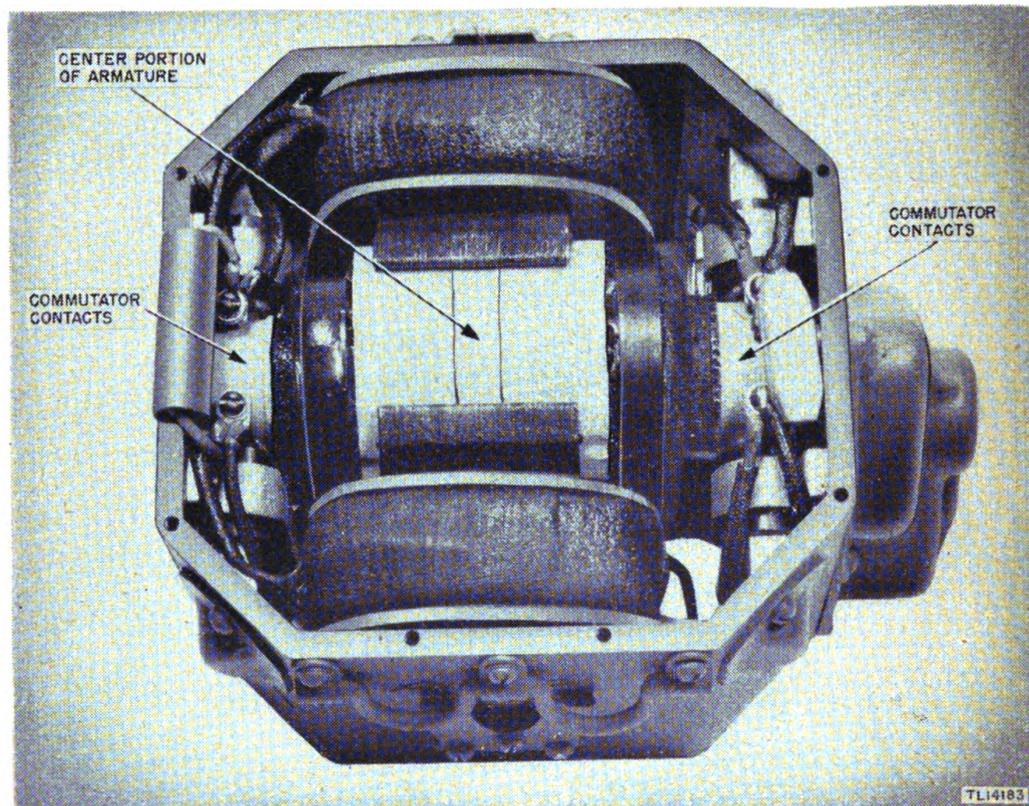

FIGURE 39.—Generator GN-44-()—view with bottom cover removed showing method of masking parts.
b. Disassembly.—(1) Remove the six screws holding the top cover of generator to case; remove the top cover†.
(2) Remove the seven screws holding the bottom cover of the generator to the case; remove the bottom cover†.
(3) Clean all dirt, oil, dust, rust, grease, fungus, etc., from the equipment to be processed.
c. Masking.—Cover the following parts with masking tape as shown in figures 39 and 40.
- (1) Commutator contacts (fig. 39).
- (2) Center portion of armature (fig. 39).